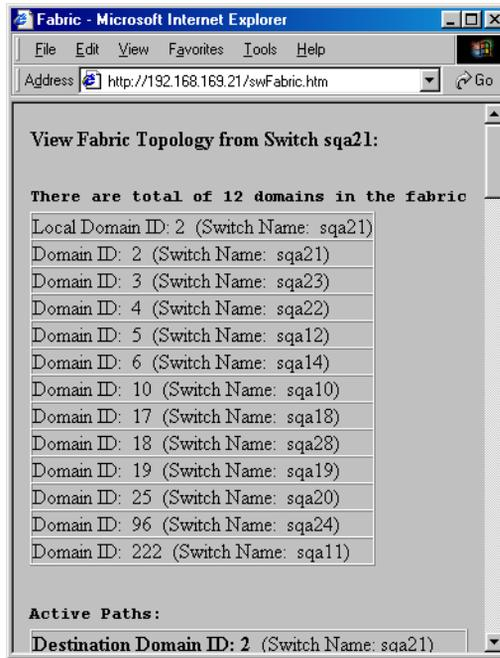

Figure 3-4 Fabric Topology View
3. Click **Fabric Topology**. The Fabric Topology View (Figure 3-4) displays.